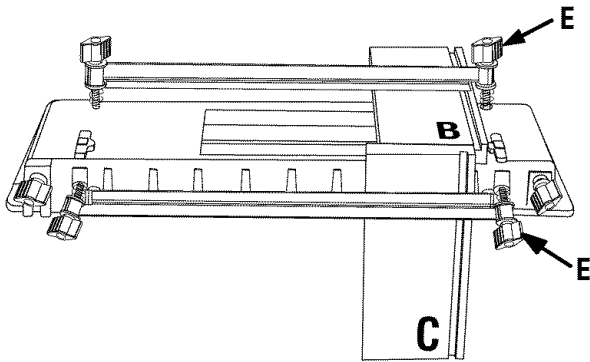

Fig. 16
You are now ready to rout your second flush dovetail joint. Do so by repeating the above procedure with boards (C) and (B) positioned against the right stops. See Figure 16.
- Insert board (C) between front clamping bar and front surface of dovetail base with bottom edge toward the right 2-way stop.
- Temporarily clamp board (C) “inside-out” to the right front of the fixture so that it extends above the base. This will assist in the proper positioning of board (B).
- Insert board (B) between top clamping bar and top surface of dovetail base, with bottom edge against right 3-way stop, and flush with extended portion of board (C).
- Tighten clamping knobs (E) on top clamping bar to hold board (B) securely.
- Relocate board (C) so that it is flush with the top of board (B) and against 2-way stop on right front of dovetail base.
- Tighten front clamping knobs (E) to hold board (C) securely.
- Attach comb-shaped template (F) and cut dovetail joint as described above.